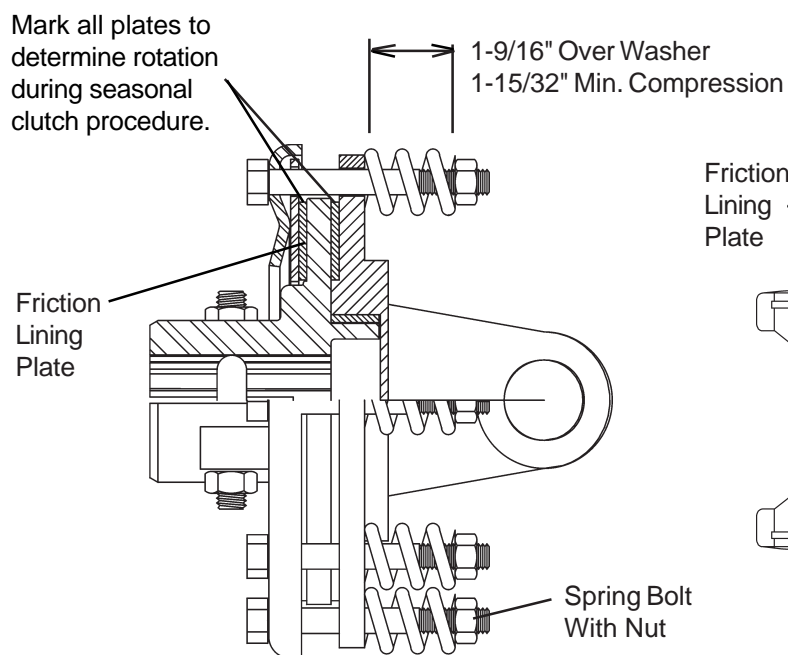

FIGURE 14 - Coil Spring Slip Clutch (1)
There are four friction lining plates in this slip clutch. The spring length shown in **Figure 14** includes the washer thickness. DO NOT adjust spring length (including washer) less than 1-15/32". Springs will become solid and tongue rating of clutch will increase drastically, which could cause a driveline failure.
1. Loosen nuts (**Figure 14 & 14a**) on springs until the springs are free, yet remain secure on bolts.
3. Mark outer plates as shown in **Figure 14 & 14a**.